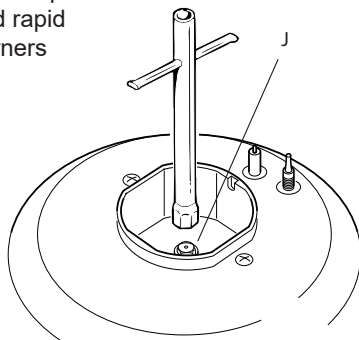

Fig. 2.2
- Using a wrench, substitute the nozzle injectors “J” (figs. 2.2, 2.3) with those most suitable for the kind of gas for which it is to be used.